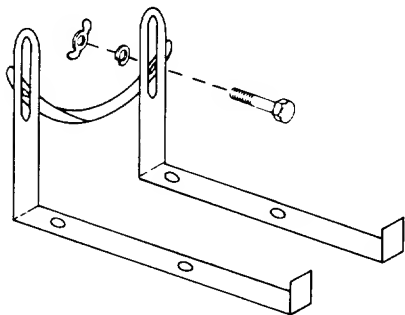

Figure 1. Horn Mounting Assembly
8. Unpack the two brackets and driver cradle from the hardware kit. Assemble them with two bolts, two lockwashers and two 7/16" nuts. See Figure 1. Set the assembly on top of the cabinet, approximately centered with the driver cradle toward the rear of the cabinet.